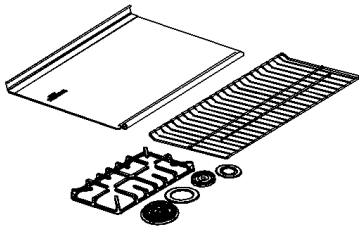

Fig.1
1. Opening the carton to take out the oven, cook top cover, burner lid, fire sprayer, baking shelves and rotisseries components. (Figure 1)